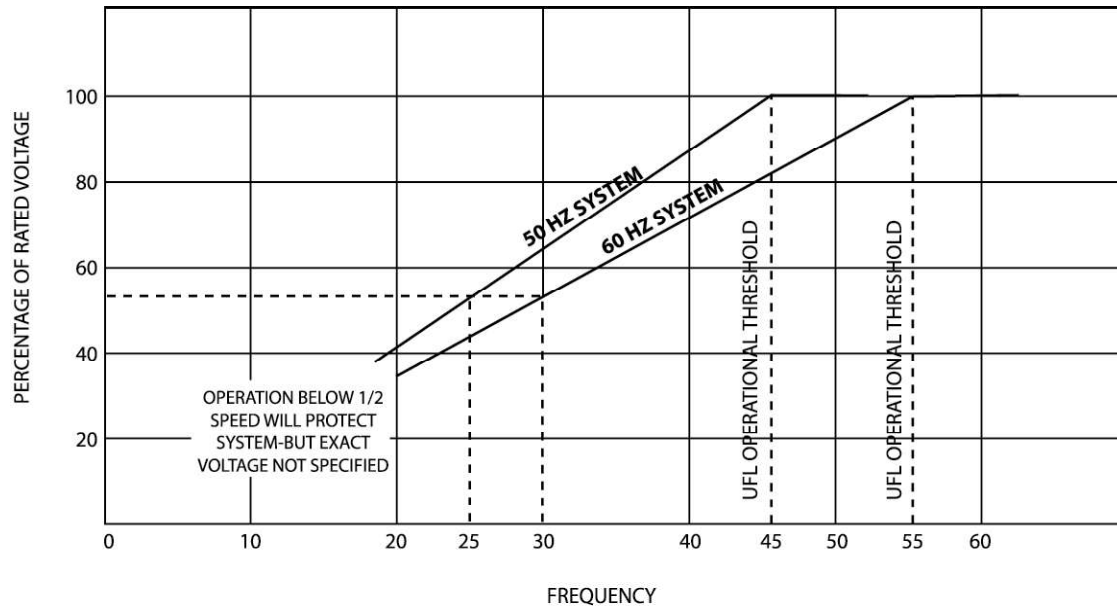

Figure 1: Underfrequency performance
**Underfrequency protection underfrequency limit:** Except where an optional feature is included, the underfrequency limit (UFL) circuit will provide underfrequency protection by reducing voltage proportional to frequency (see Figure 1). The frequency where limiting starts is as follows: